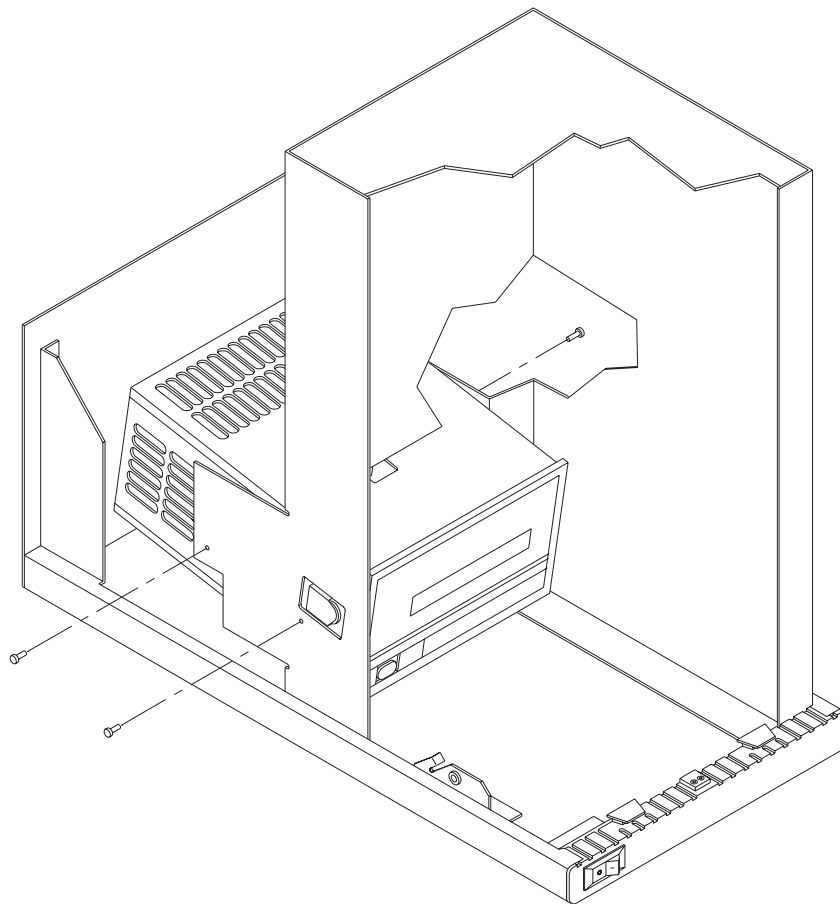

Figure 3-14 CTS mounting screws (left side view)
6. After connecting all cables, align the mounting holes in the CTS with the three holes in the EXB-10i. The mounting holes are shown in Figure 3-14. Push the CTS down so that it is flat on the sheet metal shelf.